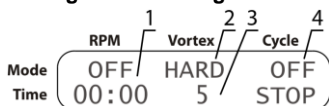

Figure 6. Vortexing
- **Vortexing.** Turn off the centrifugation by setting the time to zero (indication OFF, fig. 6/1). Set the vortexing intensity (fig. 6/2) and time (fig. 6/3). Note that the cycle counter turns off (indication OFF, fig. 6/4).